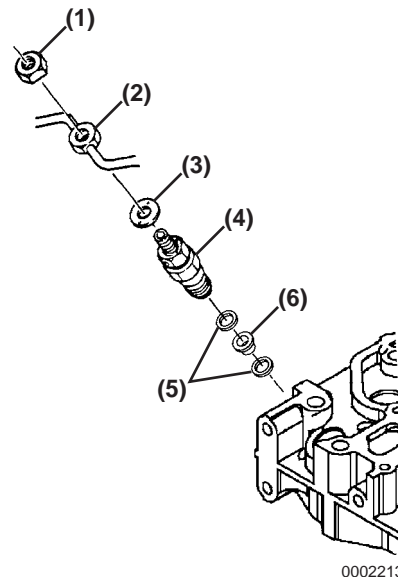

Figure 7-32
1. Insert the nozzle gaskets (**Figure 7-32, (5)**) and nozzle protector (**Figure 7-32, (6)**) in the cylinder head.
2. Install the fuel injector (**Figure 7-32, (4)**) in the cylinder head and tighten to specification.
3. Install new copper washers (**Figure 7-32, (3)**) and high-pressure and return fuel lines (**Figure 7-32, (2)**). See *Installing the High-Pressure Fuel Injection Lines on page 7-11* and *Installing the Fuel Return Line on page 7-11*. Tighten fuel line nuts (**Figure 7-32, (1)**) to specifications.